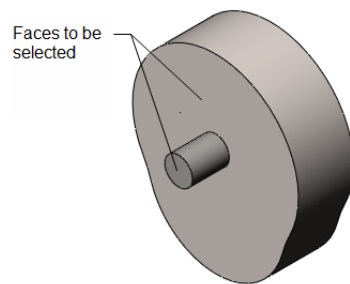

Figure 20-25 Faces to be selected
10. Specify the value of distance as **4** in the edit box and press ENTER. Next, select the planar faces of the pin and cam, refer to Figure 20-25; the distance mate is applied between the planar faces. Also, a pop-up toolbar is displayed.